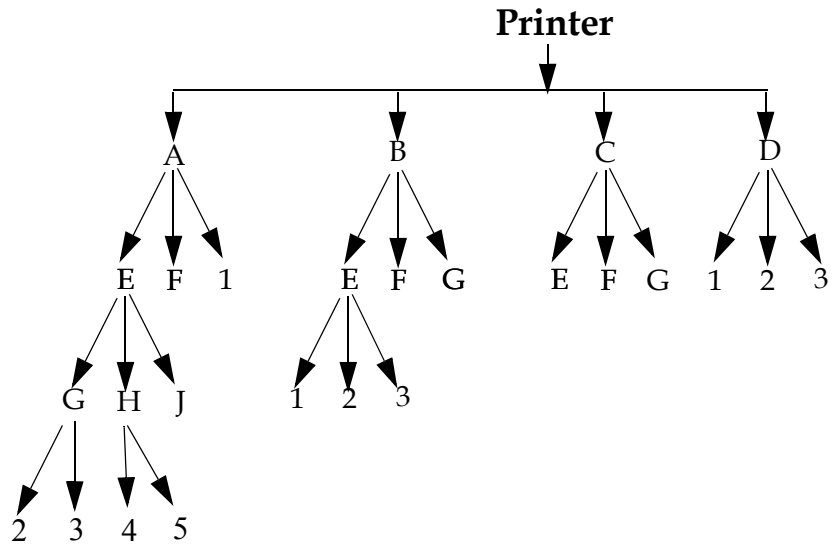

Figure 10-1: Graphical Representation of the Different Subassemblies and Parts
- An alphabet is assigned to the main assemblies of a printer and each sub assembly under the main assembly. See Figure 10-1 on page 10-3.
A natural number (1,2,3.....) is assigned to the stand alone parts (in ascending order) through out the breakdown of main assemblies. See Figure 10-1.